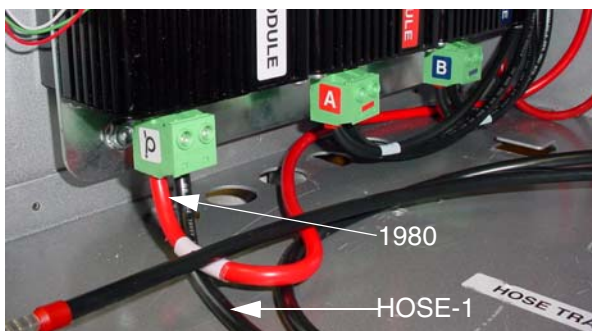

FIG. 19
2. Plug A and B green connectors into bottom of corresponding heater modules on control panel. See FIG. 19.